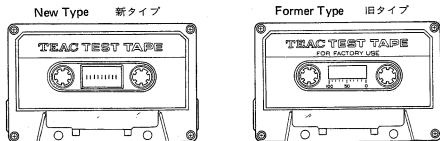

Fig. 4-3
**CAUTION 2:** The 238's 8-channel format head requires much more accuracy in tape travel adjustments than any traditional heads. Be sure to use a new TEAC mirror tape which is more suitable to the 238 than the former type. Note that both share the same model name and part number though they differ in aspects as shown in Fig. 4-3.
- 従来タイプと新タイプでは品番、品名が変わりませんので外観上の違いで区別して下さい。(図4-3 参照)